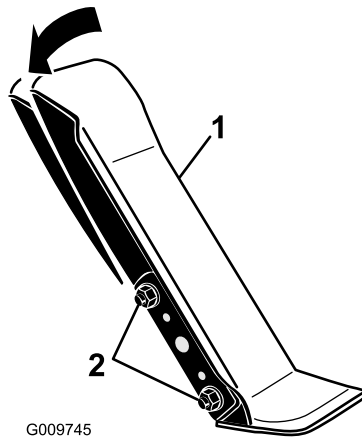

Figure 71
1. Loosen the two nuts and bolts securing the left side of the traction pedal to the bracket (Figure 71).
2. Pivot the pedal to the desired operating angle and tighten the nuts (Figure 71).